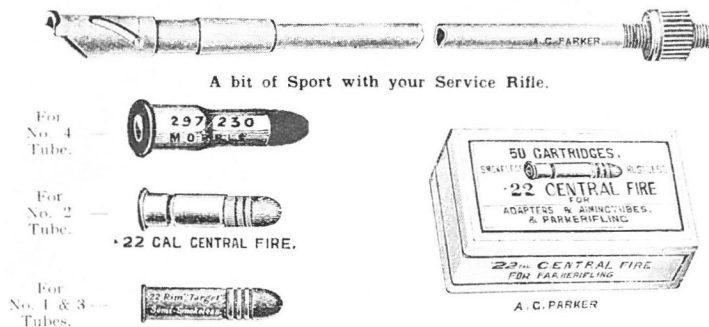

Figure 15. Morris and Aiming Tubes
15. Morris and Aiming Tubes (figure 15)